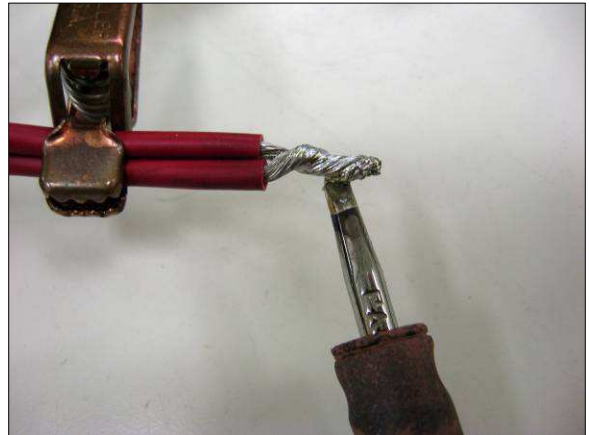

Figure 5 – Soldering Motor Wire
- 9. Refer to Figure 5.** Connect and solder the wires from the new motor to the wires on the old connector. Make sure to match the wire colors to maintain correct motor polarity.